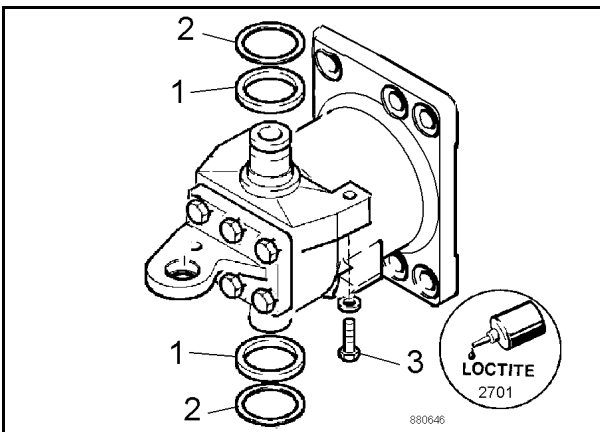

Fig. 14
20. Slide the sealing rings 1 (Fig. 14) and the supporting discs (2) over both bearing journals.
21. Install the stop screws (3) with Loctite 2701 .